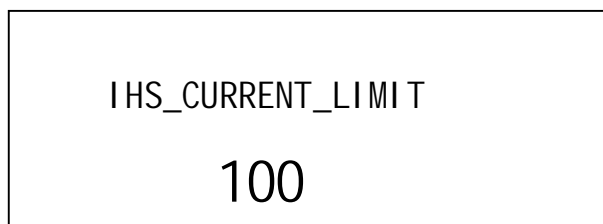

FIG. 23: IHS CURRENT LIMITED SETUP.
18). IHS_CURRENT_LIMIT: IHS CURRENT LIMITED SETUP. FIG. 23.